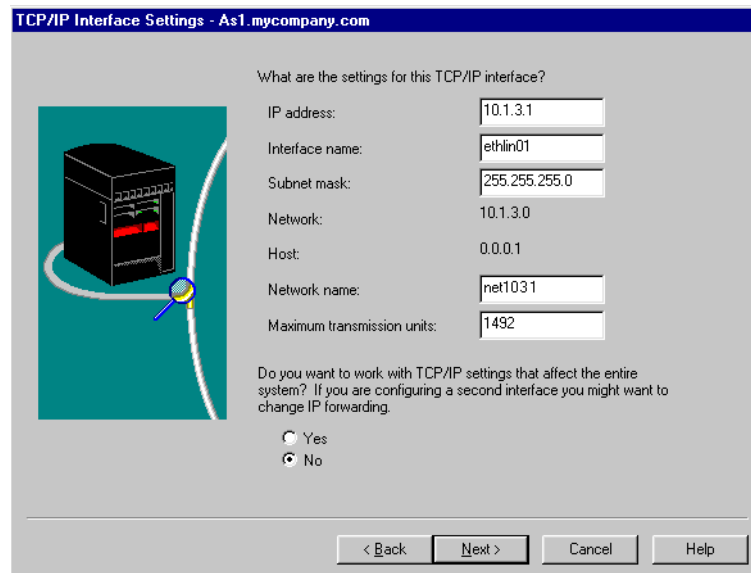

Figure 453. TCP/IP Interface Settings
7. Select the speed at which your LAN is running. Select the protocol standards that you want to support on this adapter. Click **Next**. The TCP/IP Interface Settings window appears (Figure 453).
8. The TCP/IP Interface Settings window (Figure 453) allows you to assign an IP address to your network adapter. Enter the IP address, the Interface name (we used line name), and the Subnet mask for this IP address.